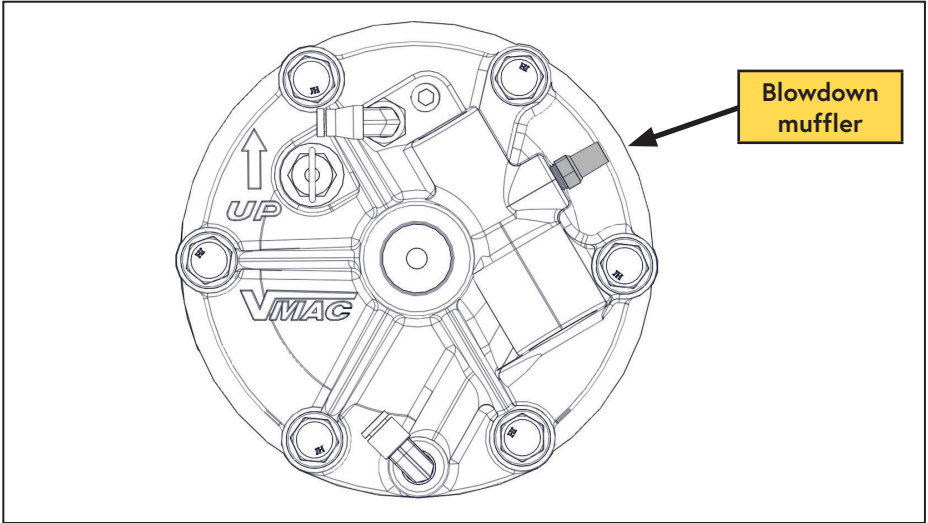

Figure 21 — Blowdown muffler
- ☐ Apply thread sealant and replace the blowdown muffler (Figure 21).